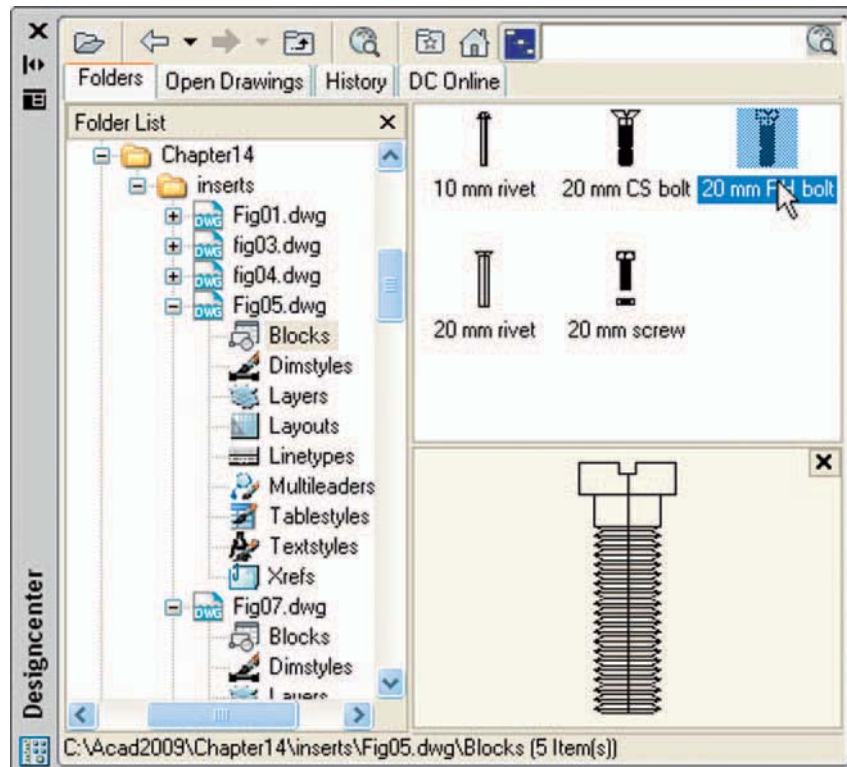

Fig. 14.6 Second example – a library of fastenings
Second example – a library of fastenings (Fig. 14.6)
2. Open the **DesignCenter**, click on the **Chapter 14** directory, followed by a click on **Fig05.dwg**. Then click again on **Blocks** in the content list of **Fig05.dwg**. The five 3D models of fastenings appear as icons in the right-hand side of the **DesignCenter** (Fig. 14.6).